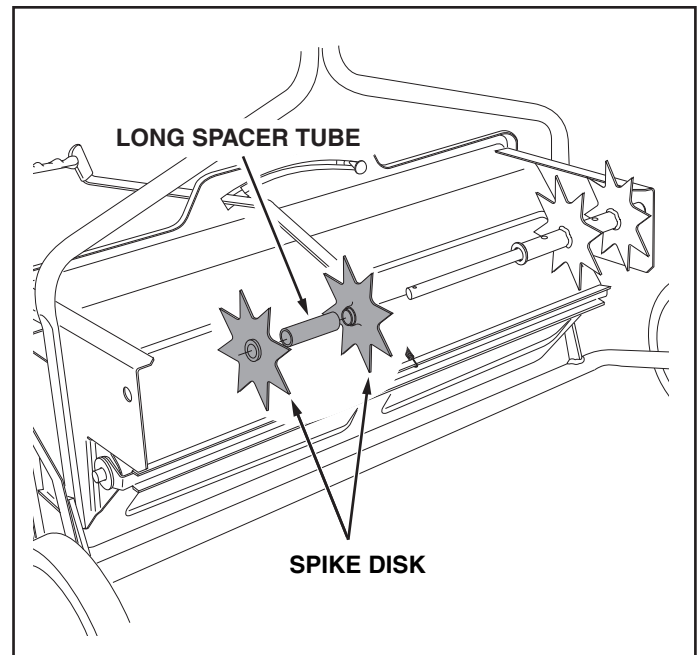

FIGURE 15
- Place two spike disks, separated by a long spacer tube, onto the shaft. Fit the long spacer tube onto the ends of the flanged bearings in the disks. See figure 15.